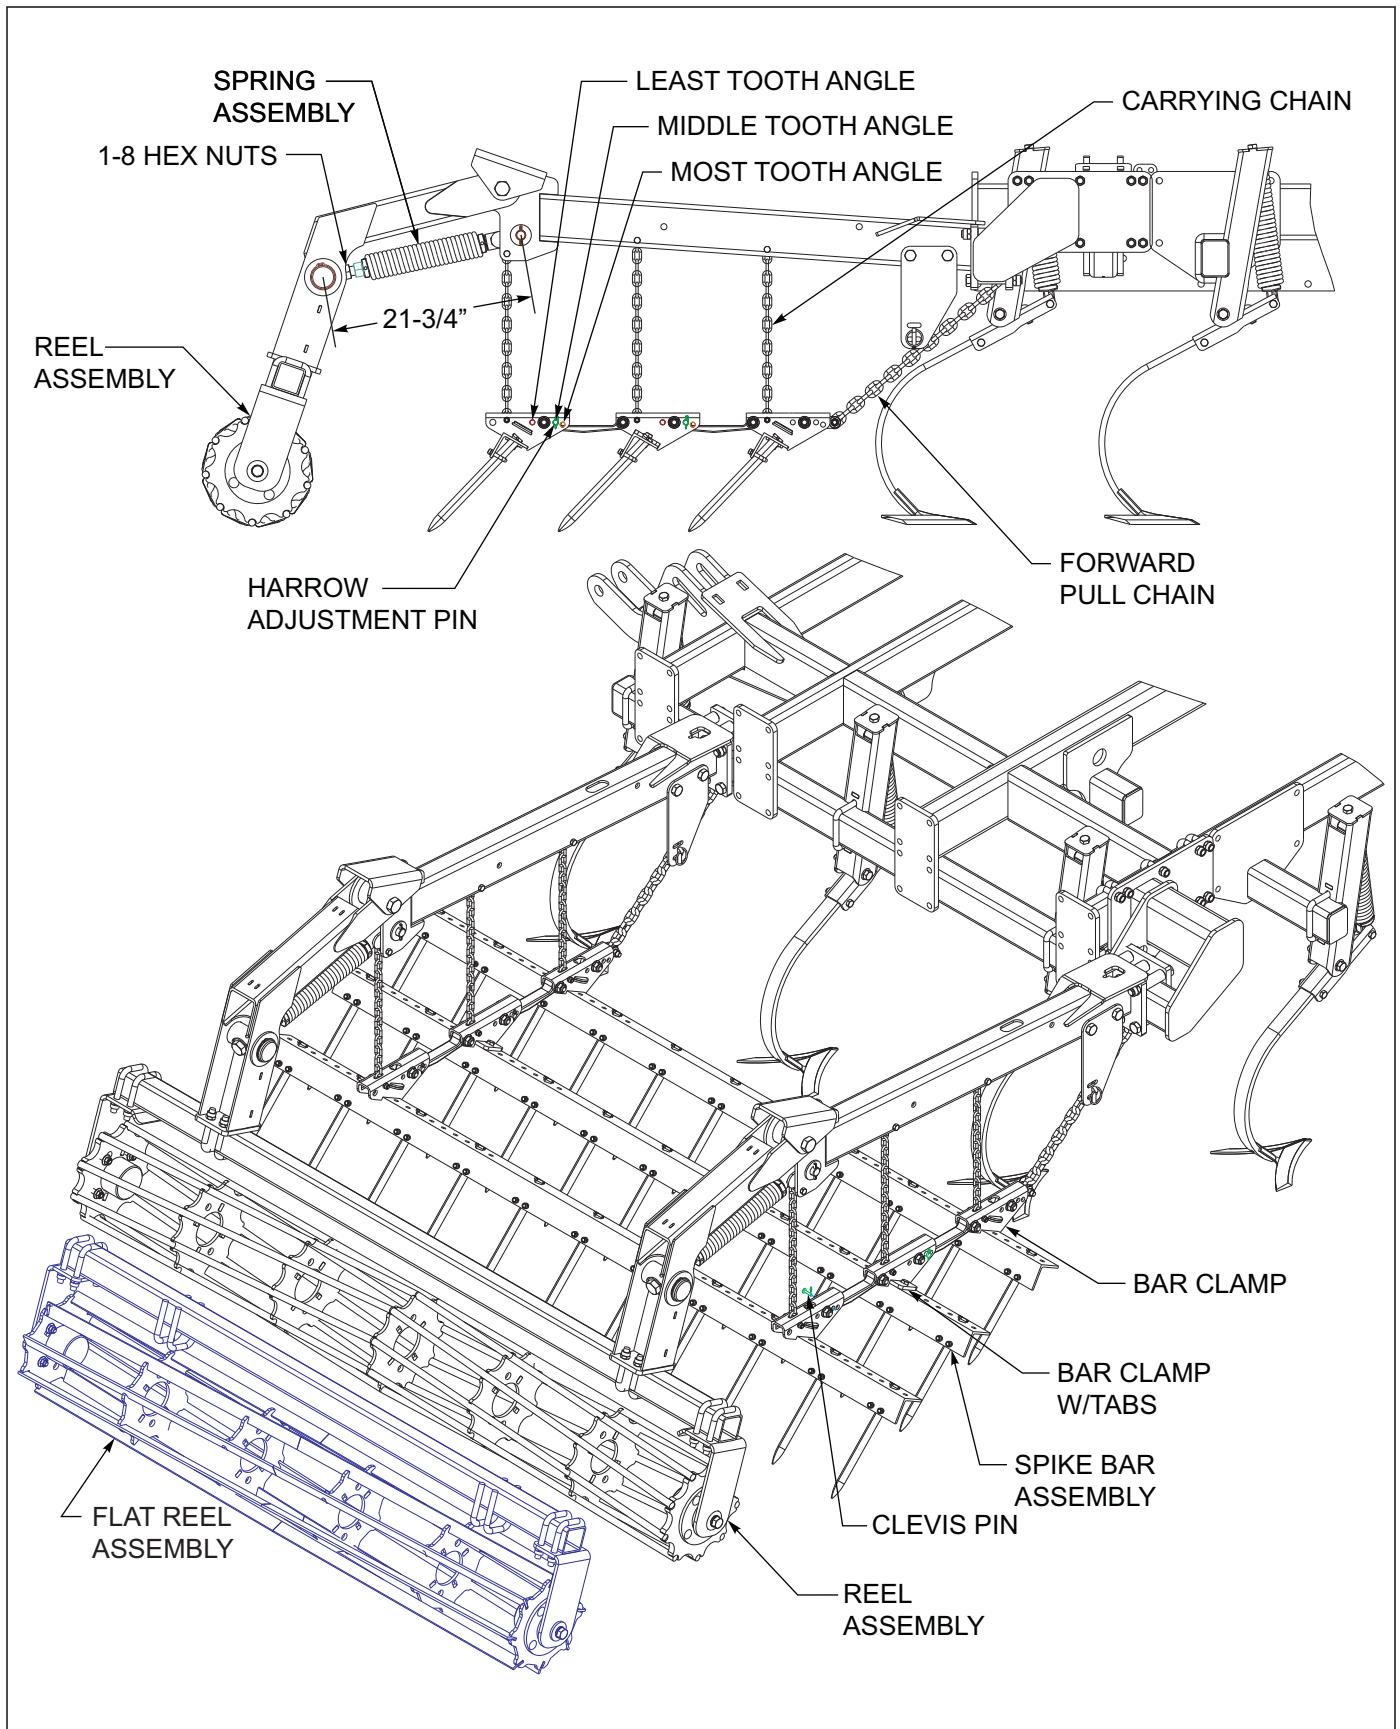

Figure 4-22: 3 Row Spike and Reel Adjustments
3. For the most aggressive spike tooth action, install the harrow adjustment pin in the forward mounting hole over each bar clamp for each spike bar See Figure 4-22. This will position the spike teeth to be in the most vertical position. In wetter or conditions with some residue, lower the spike tooth angle by positioning the harrow adjustment pin in the middle or rear hole. This will allow the teeth to lay flatter and shed more residue.